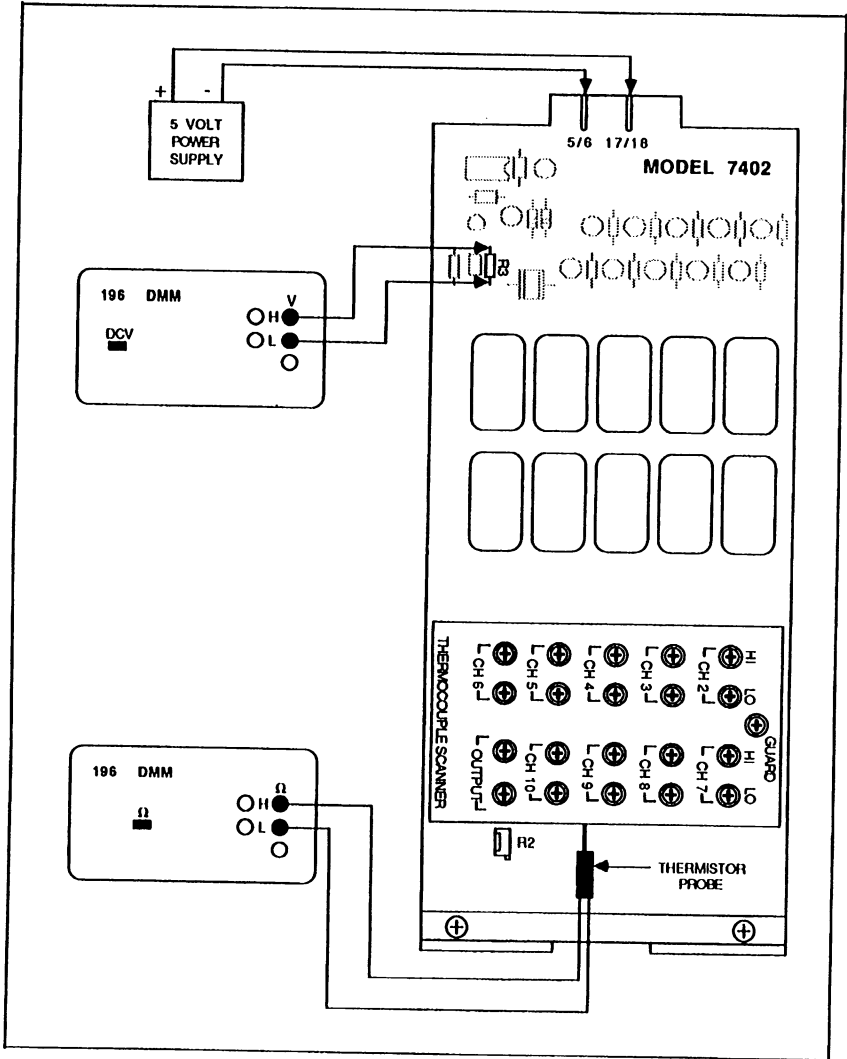

Figure 3-2. Calibration with Thermistor Probe
3. Set up the test equipment as shown in Figure 3-2.